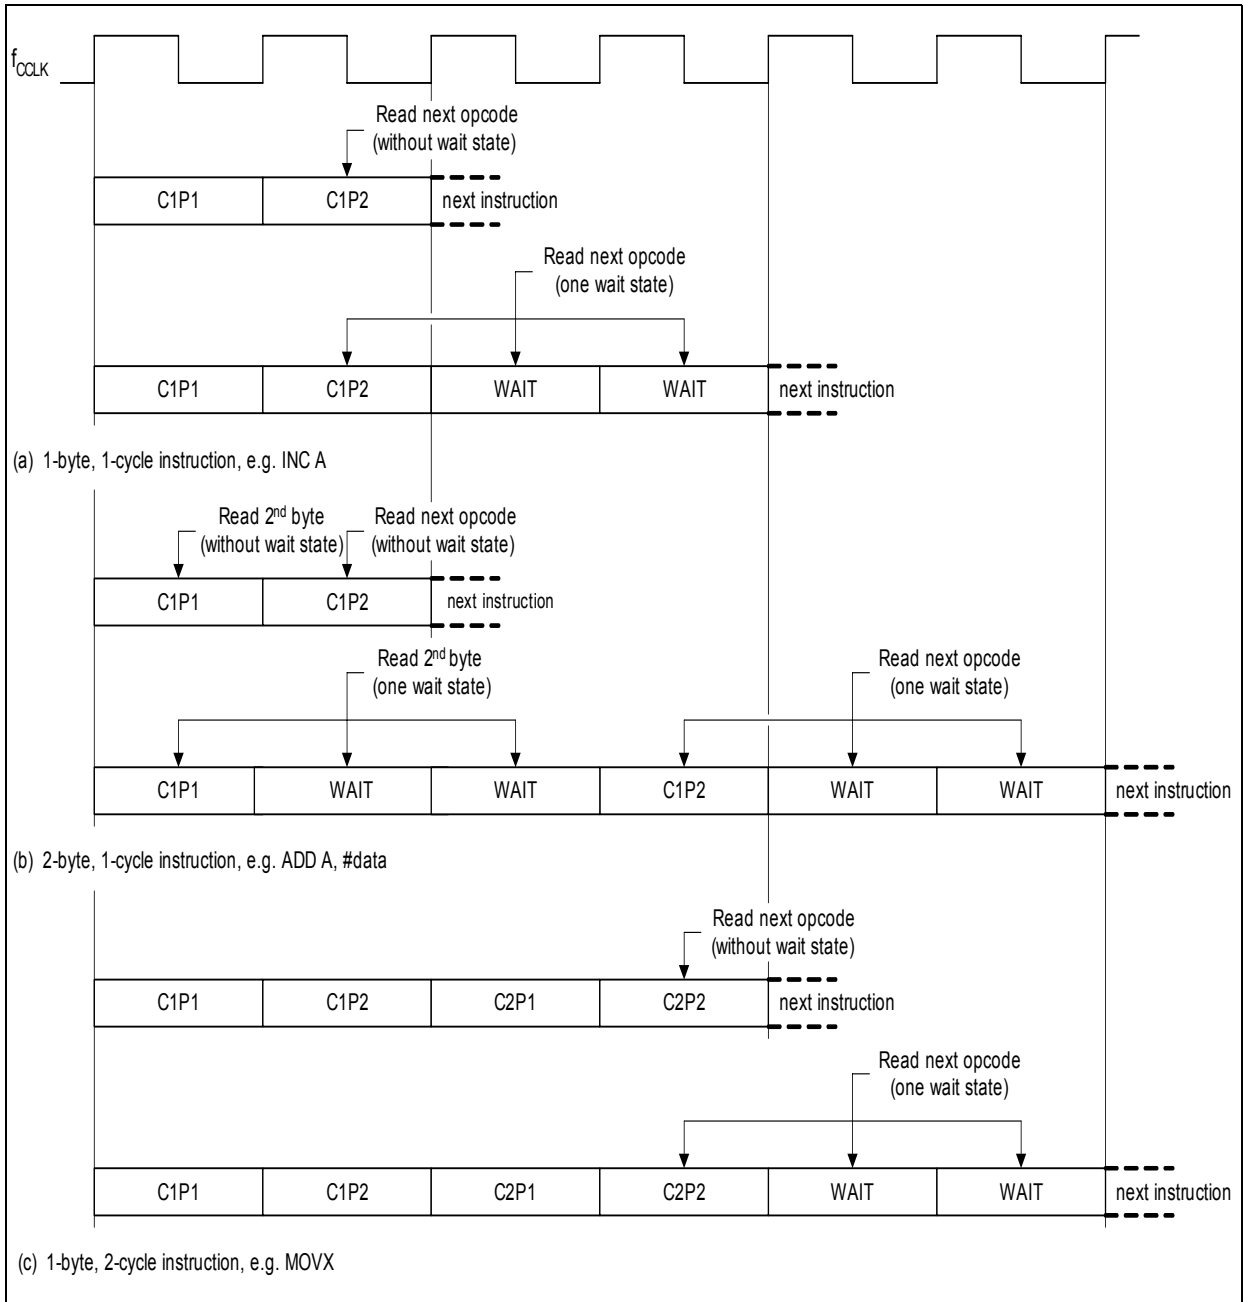

Figure 2-2 CPU Instruction Timing
**Figure 2-2** shows the fetch/execute timing related to the internal states and phases. Execution of an instruction occurs at C1P1. For a 2-byte instruction, the second reading starts at C1P1.
**Figure 2-2** (a) shows two timing diagrams for a 1-byte, 1-cycle ( $1 \times$  machine cycle) instruction. The first diagram shows the instruction being executed within one machine cycle since the opcode (C1P2) is fetched from a memory without wait state. The second diagram shows the corresponding states of the same instruction being executed over two machine cycles (instruction time extended), with one wait state inserted for opcode fetching from the Flash memory.
**Figure 2-2** (b) shows two timing diagrams for a 2-byte, 1-cycle ( $1 \times$  machine cycle) instruction. The first diagram shows the instruction being executed within one machine cycle since the second byte (C1P1) and the opcode (C1P2) are fetched from a memory without wait state. The second diagram shows the corresponding states of the same instruction being executed over three machine cycles (instruction time extended), with one wait state inserted for each access to the Flash memory (two wait states inserted in total).
**Figure 2-2** (c) shows two timing diagrams of a 1-byte, 2-cycle ( $2 \times$  machine cycle) instruction. The first diagram shows the instruction being executed over two machine cycles with the opcode (C2P2) fetched from a memory without wait state. The second diagram shows the corresponding states of the same instruction being executed over three machine cycles (instruction time extended), with one wait state inserted for opcode fetching from the Flash memory.